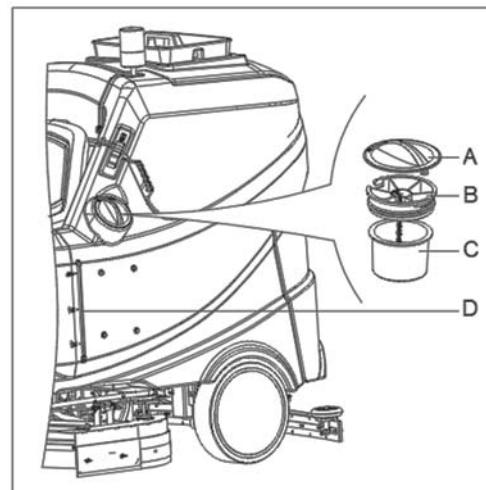

Figure 11
1. Open the water inlet cover (A, Figure 11).
3. Do not overfill the tank, refer to water level indicator (D) for the water volume.